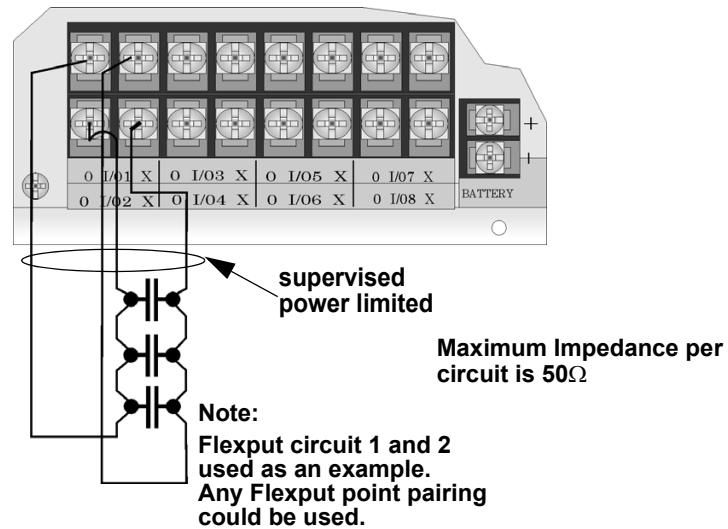

Figure 4.50 Class A initiating Switches
1. Wire the Class A switch as shown in Figure 4.50.
**NOTE:** In programming any point that uses multiple Flexput circuits, the lowest Flexput circuit number is used to refer to the circuit pair. For example, Figure 4.50 uses both Flexput circuit 1 and 2, so in programming it would be referred to as point 1.